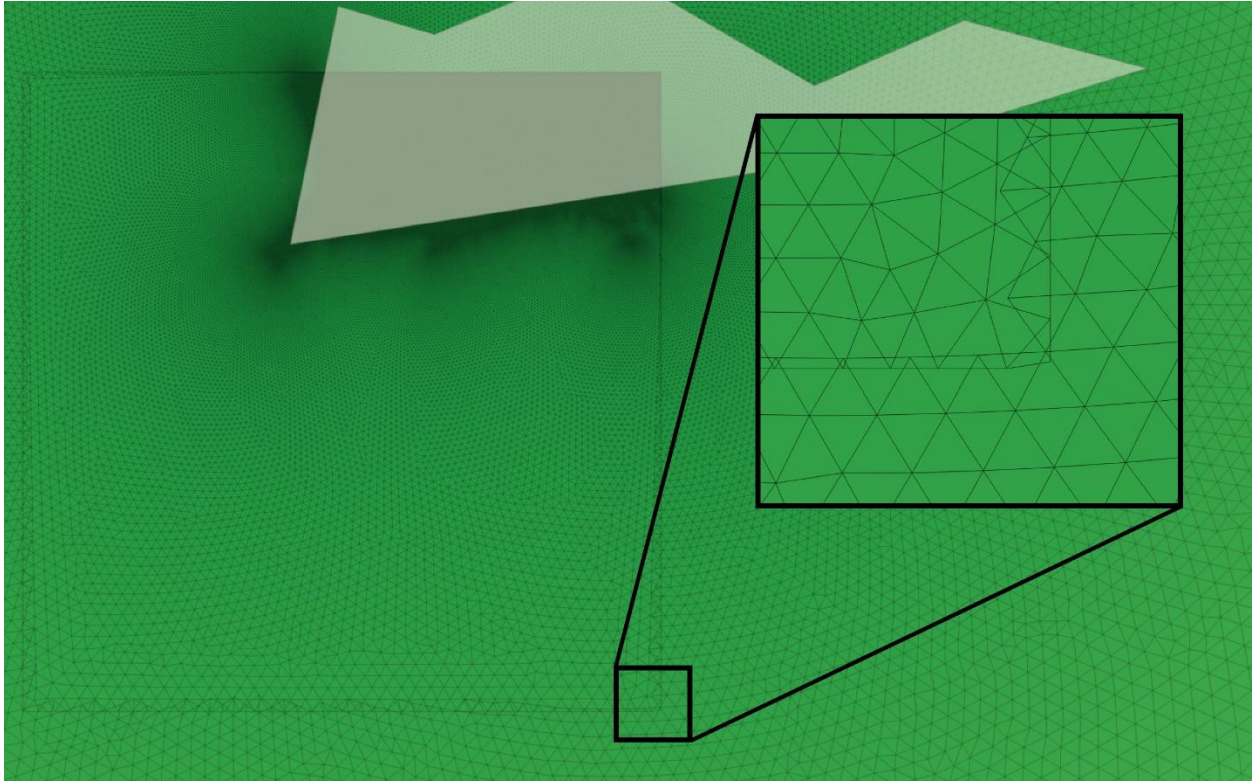

Figure 3 Combined size function mesh from two different overlapping DEM tiles covering US Virgin Islands
8. Overlaps are resolved by removing triangles whose every node falls within the bounding box of the higher priority size functions (Figure 3).